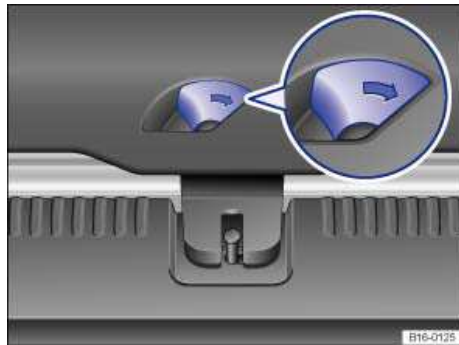

Fig. 153 Opening the luggage compartment lid from inside the luggage compartment.
- Push the lever in the direction of the arrow ⇒ fig. 153. The luggage compartment lid unlatches. Push the luggage compartment lid to open.